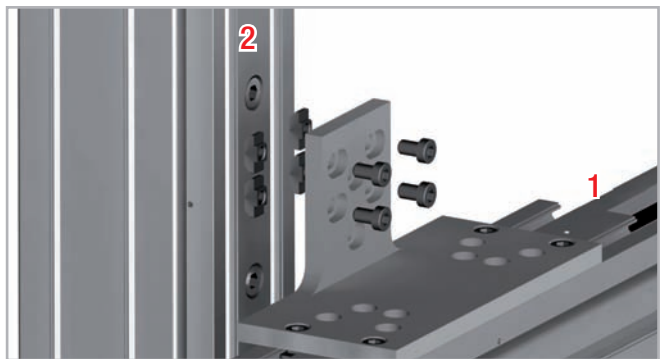

Fig. 104
4. To fix the connection plate to unit 2, insert the screws into the prepared holes on the short plate side (see fig. 104).